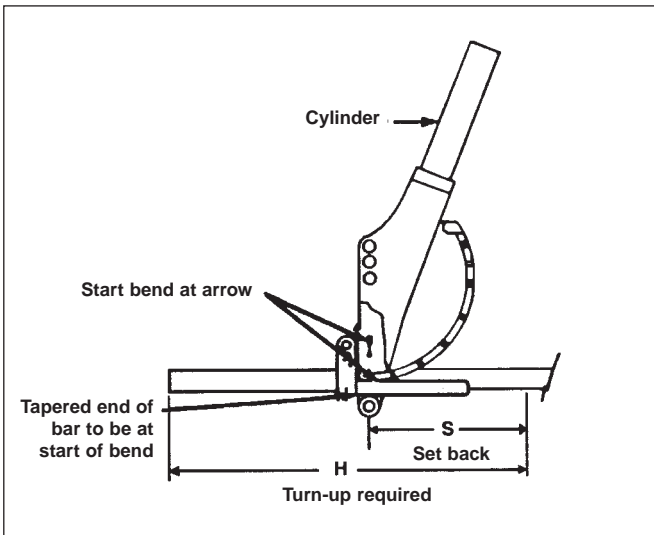

Figure 2
3. Measure back dimensions (S) and mark thinwall.
4. Place thinwall conduit in bender so mark (S) aligns with arrow on bending shoe. Proceed to bend, reading angle on shoe at rear edge of bending frame. (Angle on shoe includes approximate spring-back.) (See Figure 2.)